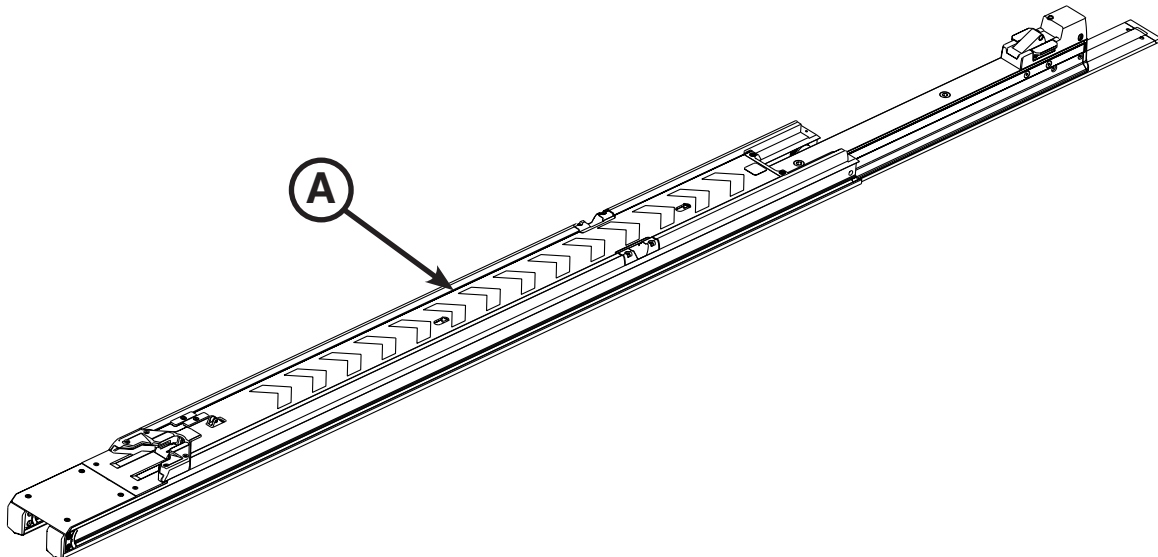

Figure 20: Position the Transfer Assembly
8. Move the transfer assembly into its mid position as shown in Figure 20.